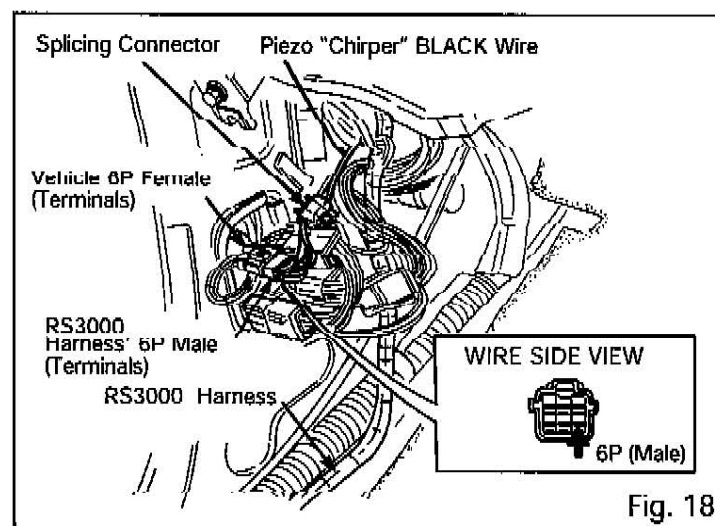

Fig. 18
- (3) A) Locate and disconnect the vehicle wire harness' 6P female (terminals) connector from the RS3000 harness' 6P male (terminals) Door Courtesy connector. Fig 18
- C) Turn the RS3000 harness' 6P male (terminals) connector so the wires face you and the tab is on top. Fig 18
- D) Locate the WHITE/BLACK wire in the bottom row, right corner. Using a splicing connector, attach the Piezo "Chirper" BLACK wire. Fig 18
- E) Reconnect the 6P connectors. Fig 18